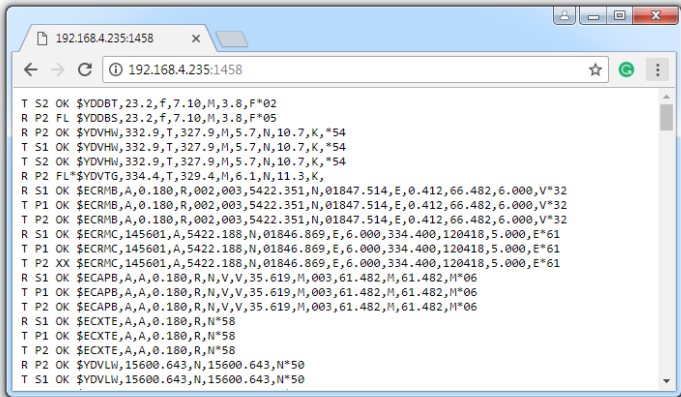

Figure 1. Chrome browser with log
The first character in the log line (see the Figure 1) indicates whether the sentence was received (R) or transmitted (T). P2 means physical port #2 and S1 means server #1. “XX” indicates overflow on this port (and this sentences was not actually sent), “FL” indicates that sentences was filtered out. Symbol \* (asterisk) after “FL” indicates that sentence is invalid (and was filtered by this reason).